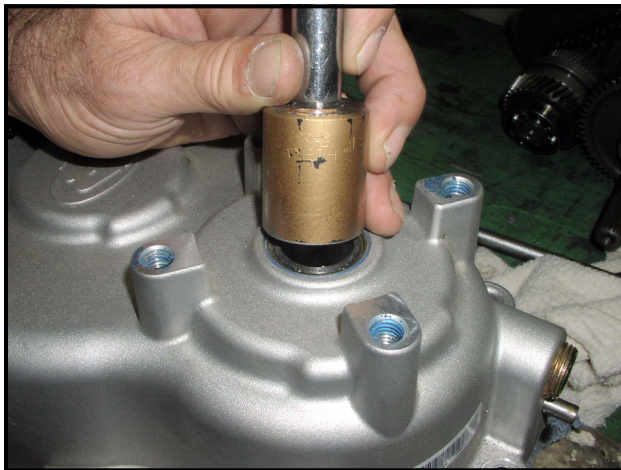

Figure 8-45 Remove Shaft Seals from Case
2. Use a socket or thick wall tube slightly smaller in diameter than the seal and gently drive the seal from outside to inside the case to remove each seal (**Figure 8-45, Page 8-15**). See following NOTE.